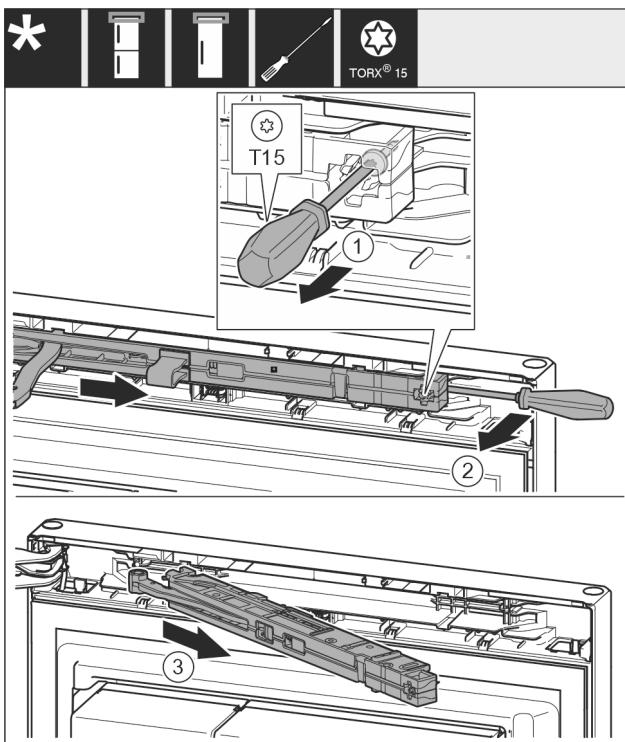

Fig. 10
- ▶ Loosen the soft stop unit screw with a T15 screwdriver approx. 14 mm (0.55 in). Fig. 10 (1)
- ▶ Insert a screwdriver behind the soft stop mechanism on the handle side and rotate the unit forwards. Fig. 10 (2)
- ▶ Pull out the soft stop unit. Fig. 10 (3)